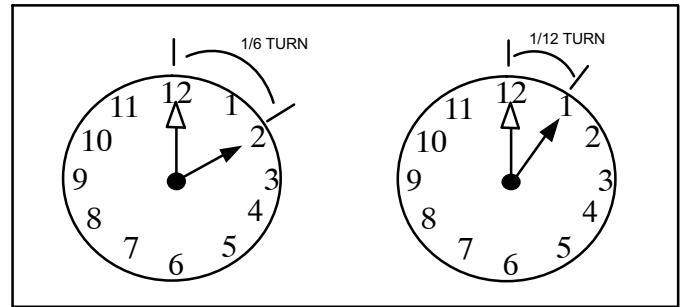

Figure 2. Cap Tightening Distances
- *Without Torque Wrench:* Finger tighten and use an appropriately sized wrench to turn an additional 1/6 turn clockwise as illustrated in Figure 2.
- **Without Torque Wrench:** Finger tighten and use an appropriately sized wrench to turn an additional 1/12 turn clockwise as illustrated in Figure 2.
- **Without Torque Wrench:** Finger tighten and use an appropriately sized wrench to turn an additional 1/6 turn clockwise as illustrated in Figure 2.